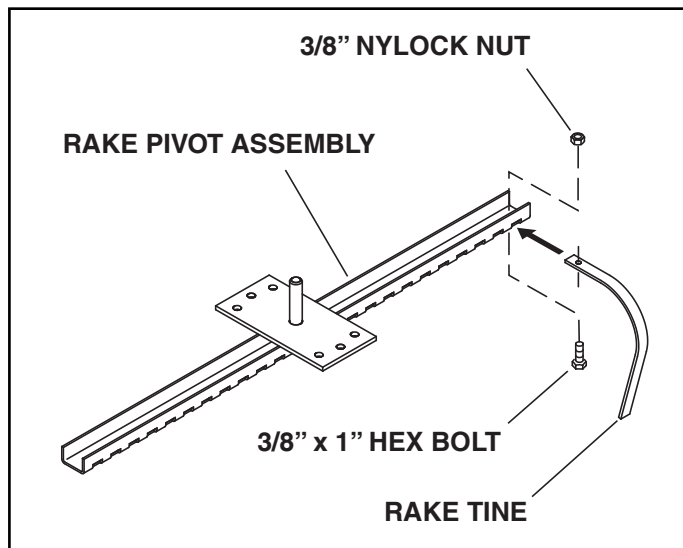

FIGURE 1
1. Attach the 24 rake tines to the rake pivot assembly using a 3/8" x 1" hex bolt and 3/8" nylock hex nut for each tine. Insert the ends of the tines through the slots in the rear of the rake pivot assembly. Make sure all nuts and bolts are securely tightened. See figure 1.